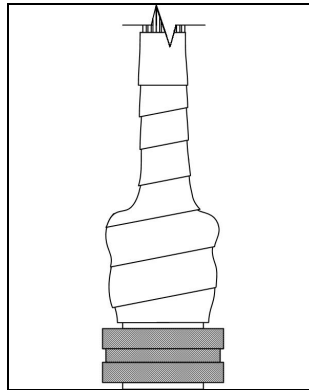

Figure 4
- 3.4.6** Cut off any excess Self-Fusing Silicone Tape (see figure 4)